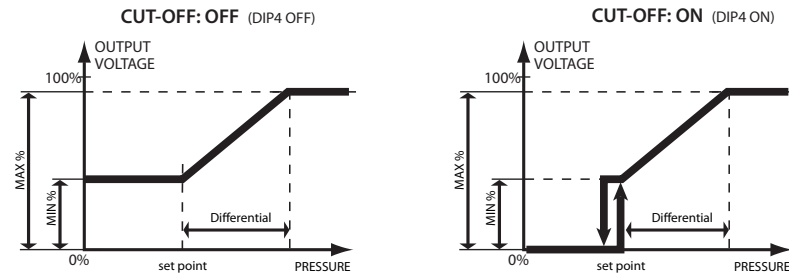

Fig. 4
- Cut-Off function (see Fig. 4) enabled by dipswitch;